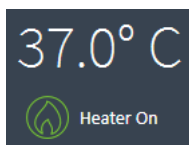

Figure 9 Temperature widget.
- 1 Click the temperature widget. (See Figure 9.)